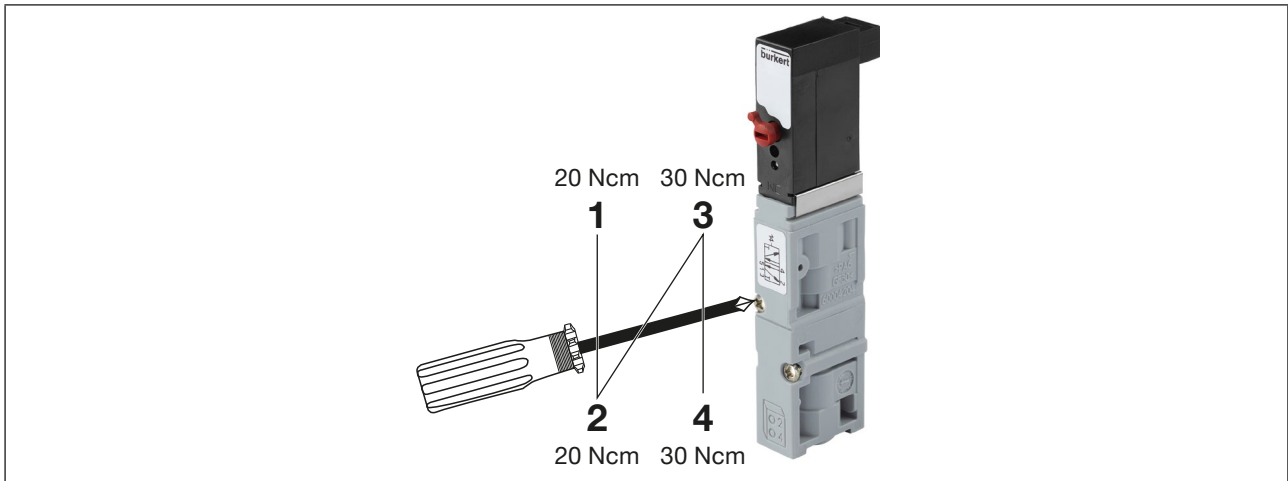

Fig. 28: Tightening the screws when replacing valve types 6524 and 6525
- Tighten the fastening screws crosswise, paying attention to the tightening torque (see Fig. 28).